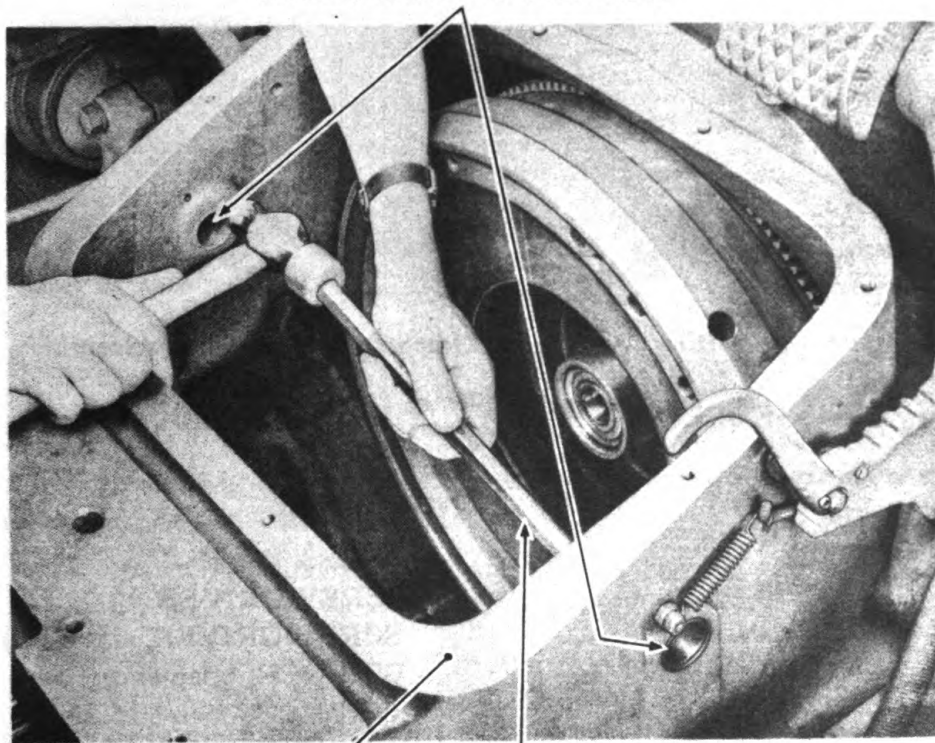

Figure 17 – Engine Clutch Fork Shaft Bushing Removal
(15) REMOVE ENGINE CLUTCH FORK SHAFT BUSHINGS (fig. 17).